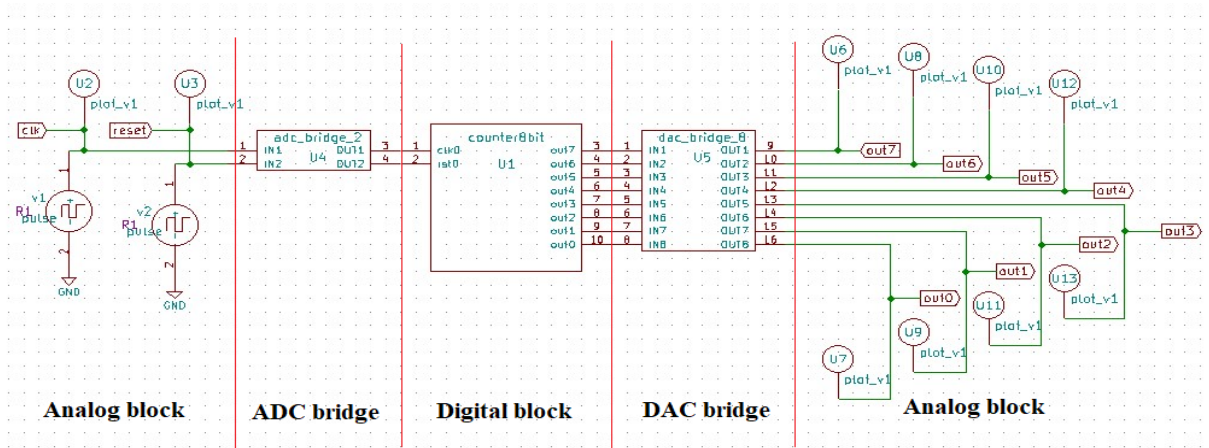

Figure 11.31: Example of a 8 bit Counter circuit in eSim
- Now create the schematic as shown in Fig. 11.31, annotate, perform electrical rules